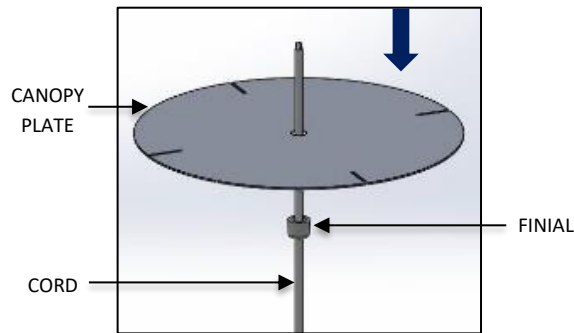

FIG. 13 – CANOPY PLATE
4. Pass the FINIAL and the CANOPY PLATE through the CORD as shown in FIG. 13 below.